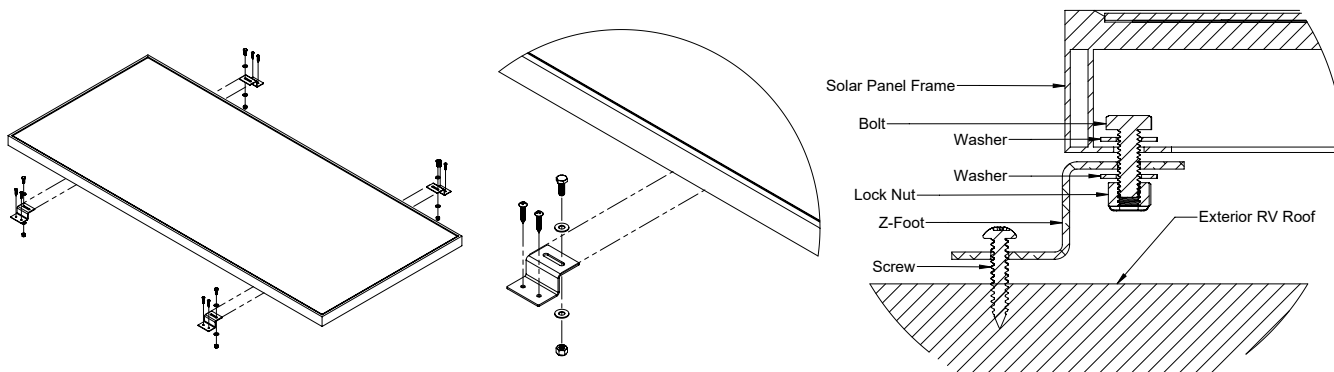

FIGURE 4-A: SOLAR PANEL INSTALLATION DETAILS
1. Assemble 4 mounting feet onto each of the solar panels frame using the 1/4" bolts and nuts. This assembly is easily completed on the ground before the panels are brought up to the RV roof. (See Figure 4-A)